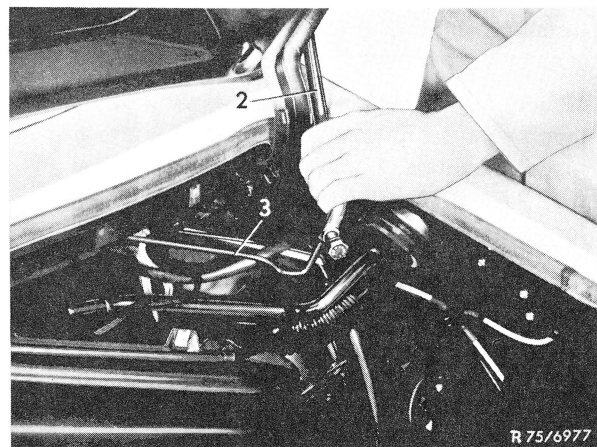

Figure 3
- 7 For slackening spring, push mounting lever slowly forward (Fig. 3).